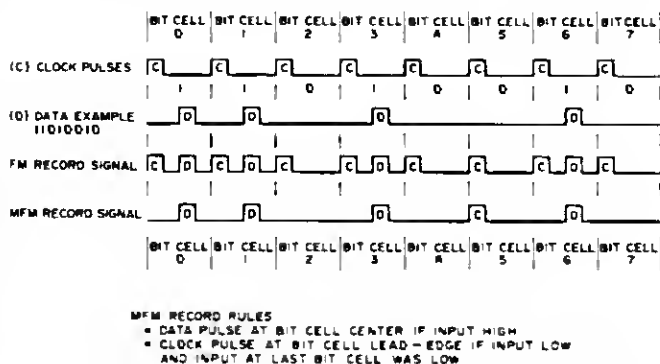

Fig. 2. Single density (FM) and double density (MFM) recording formats
The FDC's clock bit/data formats are referred to as frequency modulation (FM) in the single density mode, and modified frequency modulation (MFM) in the double density mode. These formats are illustrated in Fig. 2. To understand how these FM sys-
This brings us back to Fig. 2. Each bit cell recorded on the disk contains two pieces of information: definition of the physical boundaries of that bit cell, and the data bit (a binary logic level high or low). In the single density mode, both data bits and clock bits are recorded. A pulse between two clock pulses defines a logic high for the bit cell. If no pulse exists, a logic low is defined for that cell. In the double density mode, clock bits are not required at each bit cell location. Instead, the relative position (or in some cases, the lack) of a logic high level bit at each bit cell location defines the cell and determines whether the cell data is a logic high or low. The rules of MFM data bit placement are in Fig. 2.